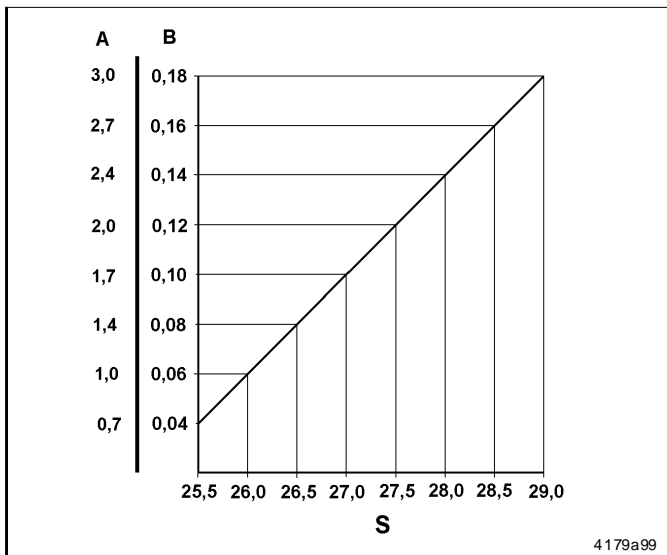

Fig. 4-3 Lubrication output diagram
- adjusting measure "S" (fig. 4-3) 28 mm
- Determine adjusting measure S (including deviation) for the required output volume by means of the output diagram (fig. 4-3).